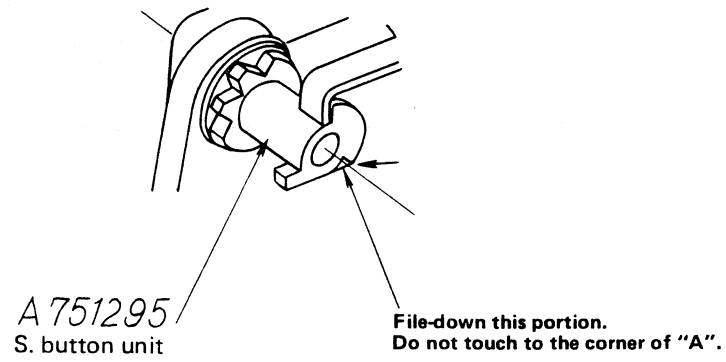

Fig. 2
- 3) If the edge of S. button lock claw (A284630) is in contact with the grooved portion of shutter button ring unit (A751295), file down the grooved portion. When file down, turn button ring towards "B" click slightly. (Fig. 2)